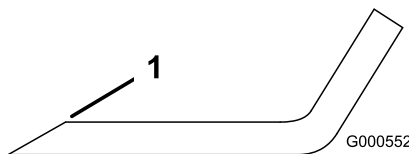

Figure 62
1. Use a file to sharpen the cutting edge at both ends of the blade (Figure 62).
Note: If the blade is not balanced, file some metal off the end of the sail area only (Figure 62).